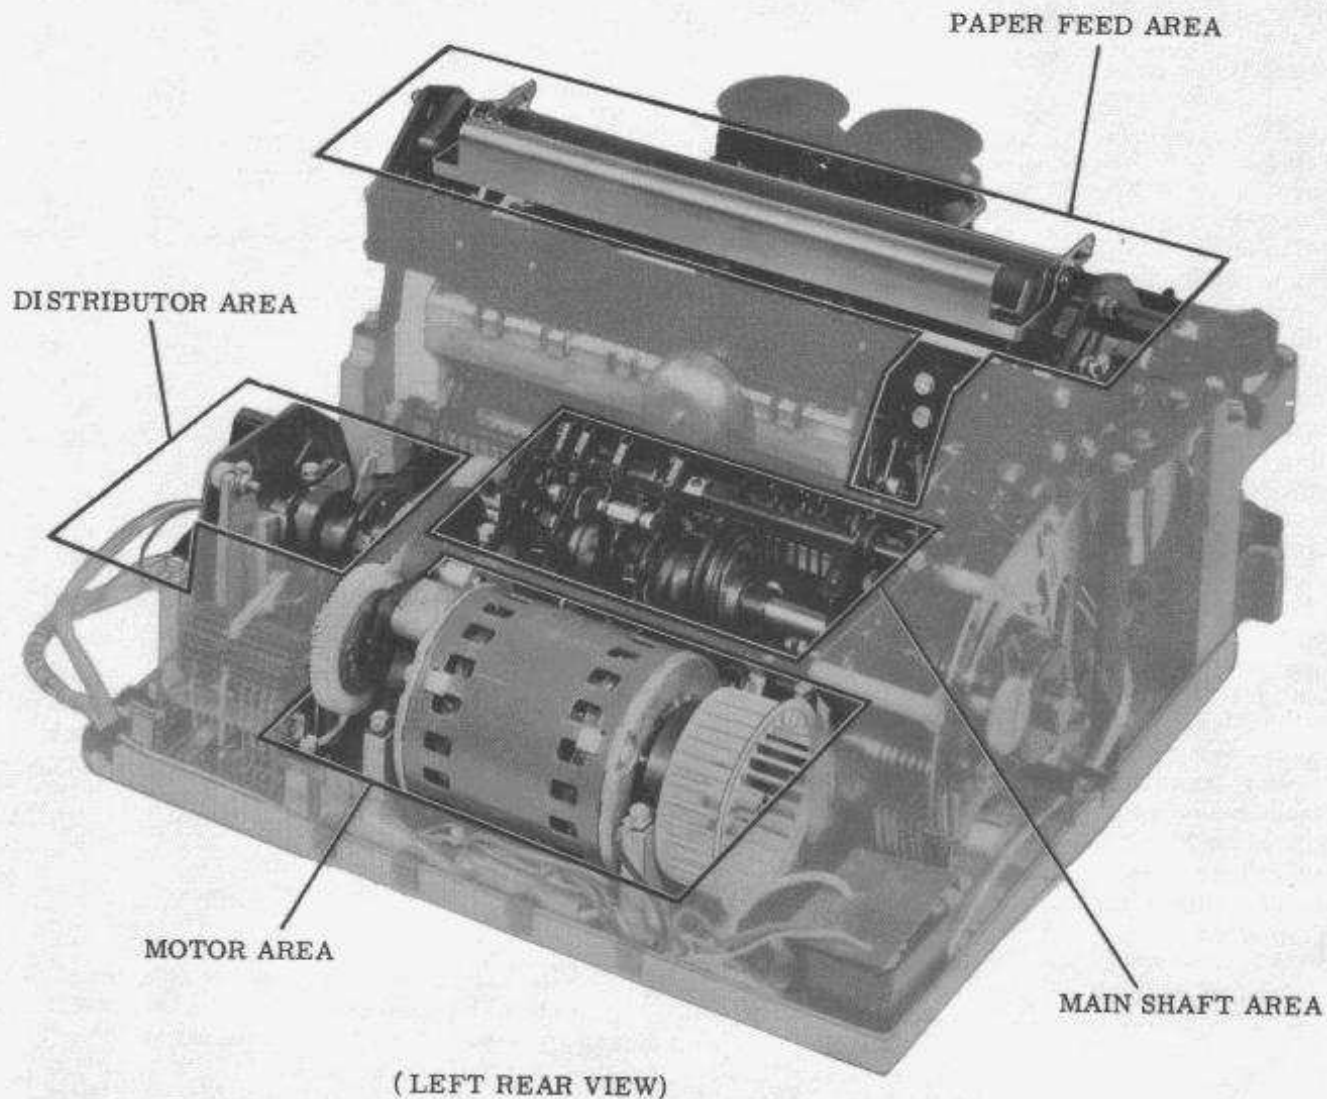

Figure 1 — Distributor, Main Shaft, Motor, and Paper Feed Areas
1.16 To aid in locating the adjustments and spring tensions, the typing unit is divided into twelve areas. These areas are indicated in Figures 1 through 4 as follows: